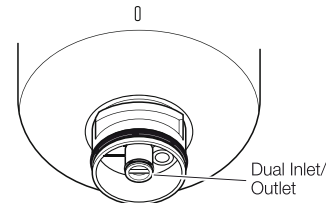
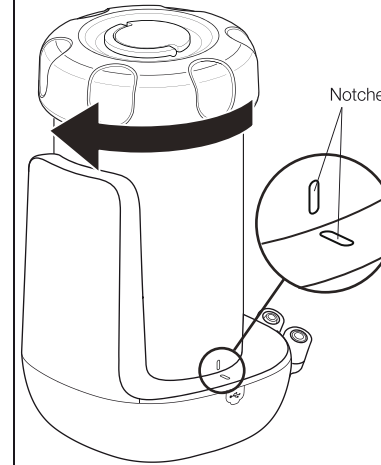

Figure 5.13 – Dual Inlet/Outlet Location
Figure 5.15 – Aligning Notches to Lock in Place
4. Place new filter cartridge on the filter base. Make sure to engage the filter's dual inlet / outlet fitting (at bottom of filter) with the receiver in the filter base (see Figures 5.13 & 5.14). Rotate the filter cartridge 90 degrees clockwise to lock in place. Rotate until notches on filter cartridge and filter base align (see Figure 5.15).